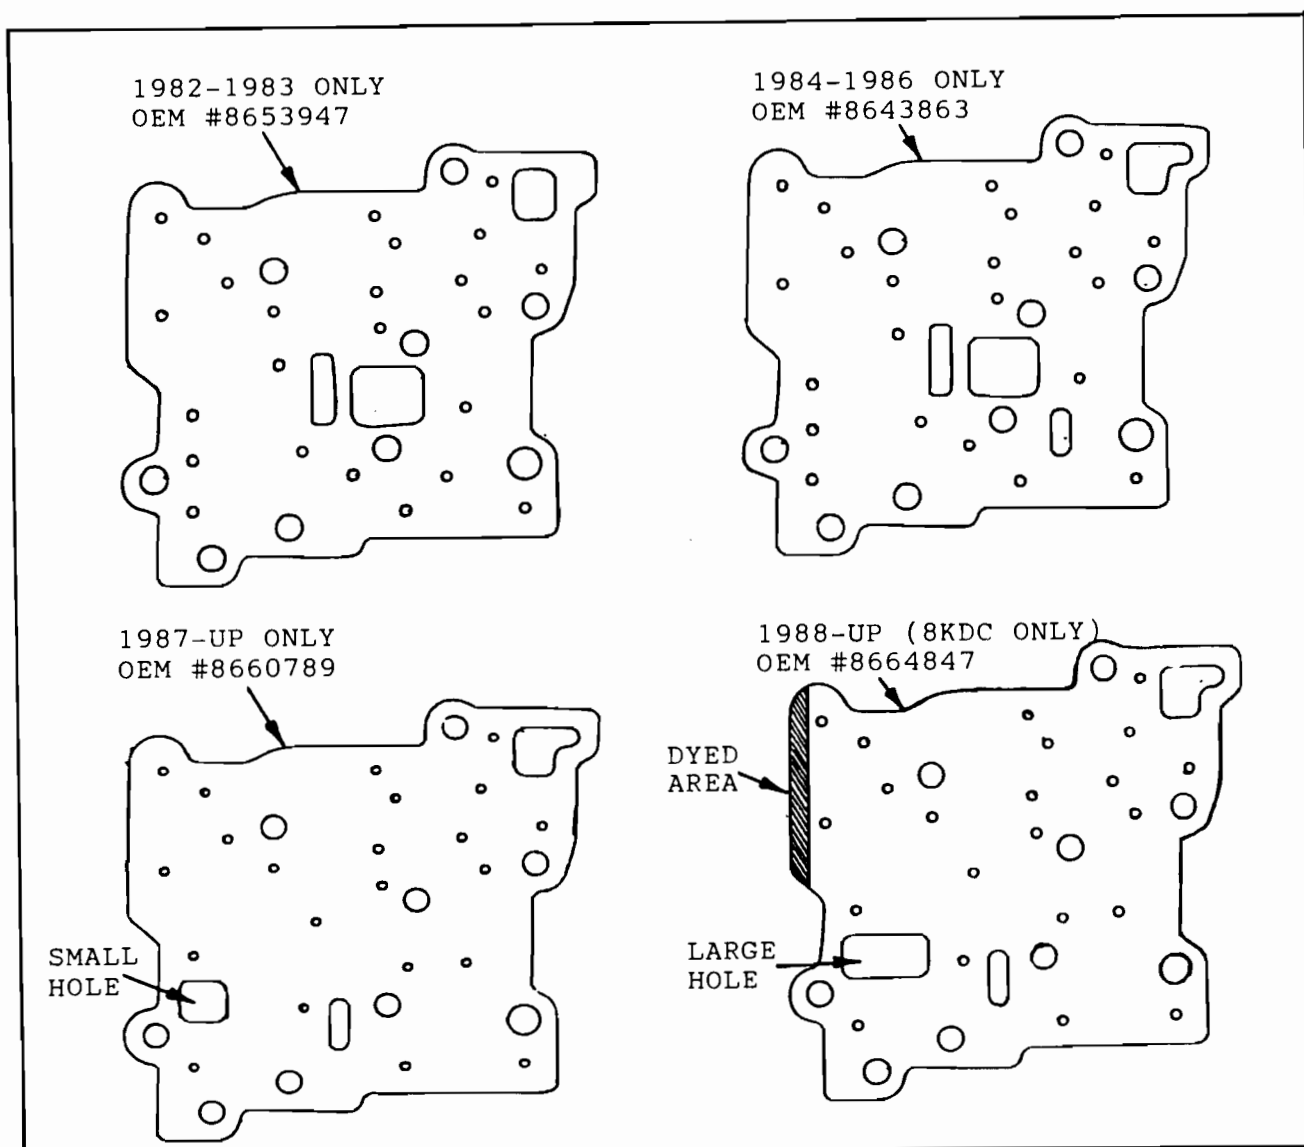

Figure 1
This now makes four (4) auxiliary valve body cover gaskets for the THM 125C, and they "CANNOT" be interchanged with each other (Figure 1).